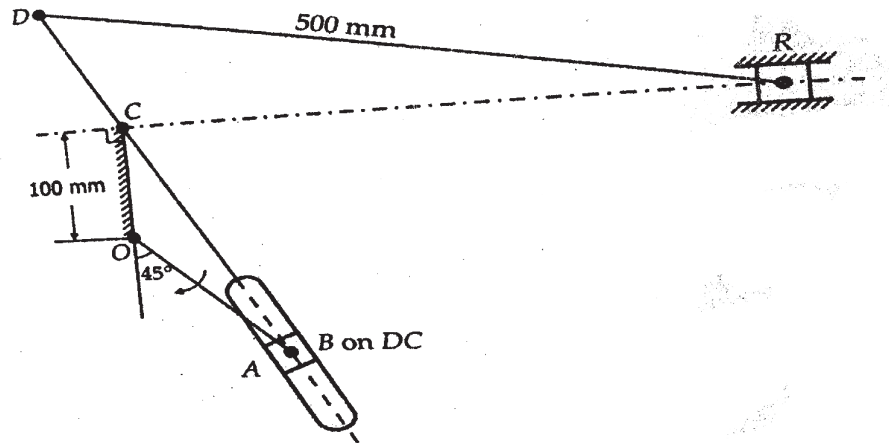

Fig. 3
7. In a Whitworth quick return motion mechanism shown in Fig. 3 OA rotates at 30 rpm in clockwise direction. The dimensions of various links are :